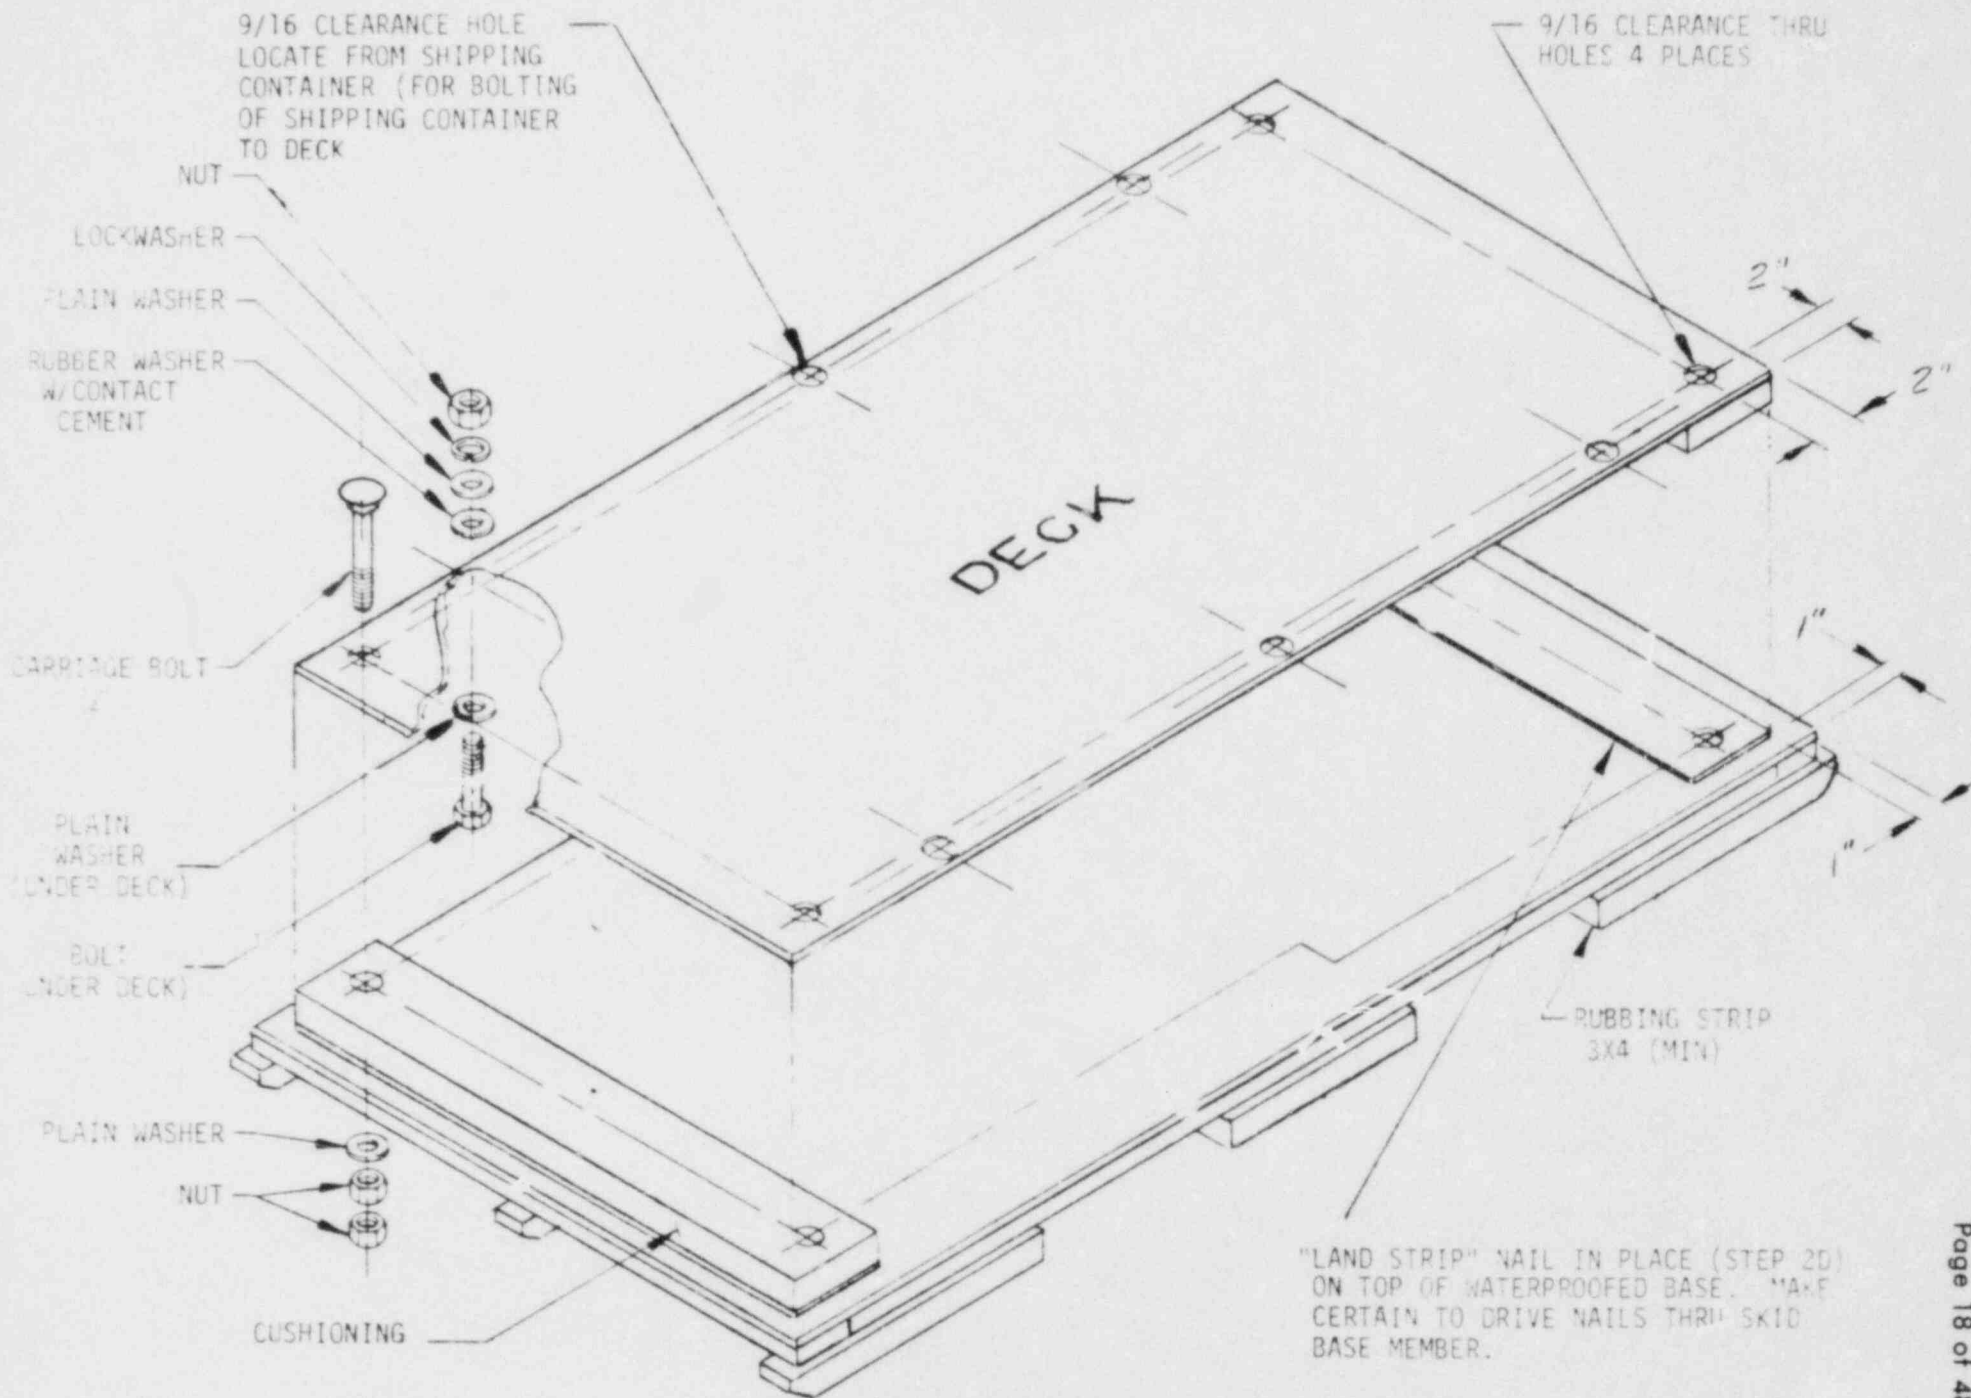

FIGURE 1
- 6.0 Cushioning will be provided by strapping and bolting (use rubber washer and contact cement under washer for waterproofing) the wooden shipping container to a "floating deck" type skid base. Follow details outlined below for construction of the skid base. See Figure 1 for example.